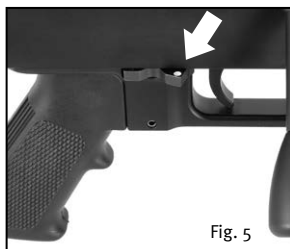

Fig. 5
Safety Position (Fig. 5):
1. Move rotating safety of the rifle to position "Safety" (Fig. 5).
By retracting the bolt, the spent cartridge shell will be extracted and ejected. Move rotating safety back to position "Safe" (Fig. 5).
By retracting the bolt, the spent cartridge shell will be extracted and ejected. Moving the bolt forward will feed a new cartridge from the magazine into the cartridge chamber of the barrel. Relock the bolt by turning the bolt handle. Move rotating safety back to position "Safe" (Fig. 5).
The rifle is loaded, cocked, and safe, again. If the safety has been released, but no shot fired, the weapon must be immediately put on safe (Fig. 5) again.
1. Move rotating safety in position "Safe" (Fig. 5).
1. Move rotating safety to position “Safe” (Fig. 5).
The unloaded and safe rifle (Fig. 5) is pointed in a safe direction.